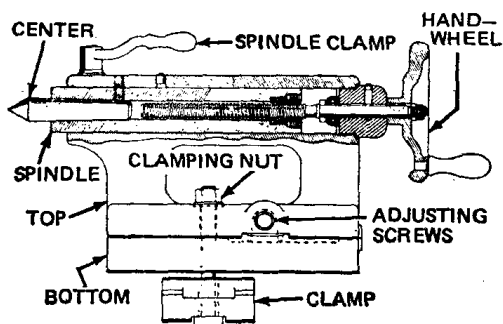

Fig. 4 A cutaway showing construction of the tailstock.
in position^① (Fig. 4). It consists of two castings or main parts. The lower part rests directly on^② the ways, and the upper part rests on the lower part. Adjusting screws hold the parts